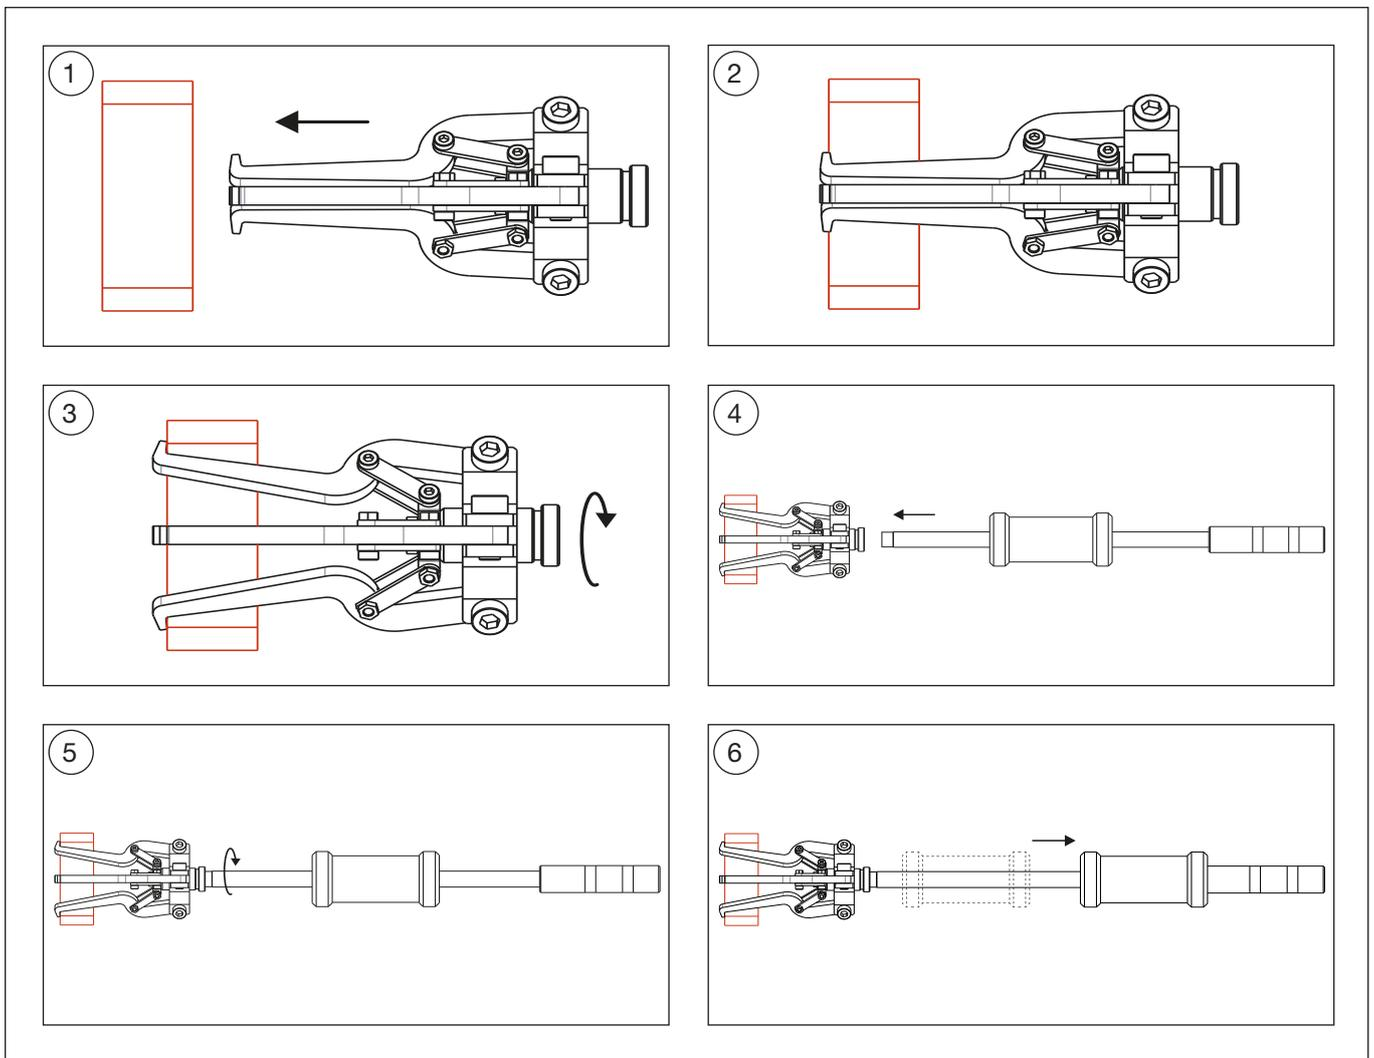

Figure 5: Puller Operation Steps. Extracting an Internal Part.
1. Place the puller inside the workpiece. Refer to Figure 5, views 1 through 6 during the following steps.
4. Proceed with steps 4, 5 and 6 of the *Steps for internal parts* section in order to extract the external part. Refer to Figure 5.